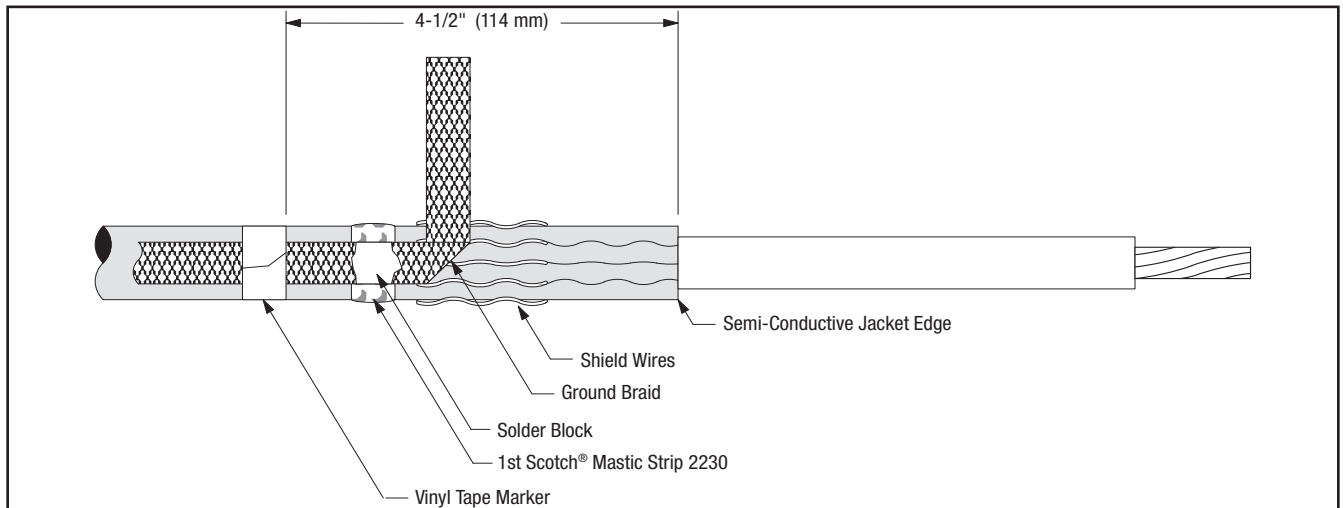

Figure 20
13.2 Position pre-formed ground braid with short tail directly over cut edge of folded back shield wires. PLEASE NOTE: The ground braid needs to make full contact with the shield wires. Position long tail of ground braid, extending over cable semi-conductive jacket with solder block over mastic strip (Figure 20). Secure ground braid to cable semi-conductive jacket 4-1/2" (114 mm) from cable Semi-Conductive Jacket edge using vinyl tape (See NOTE and Figure 20).